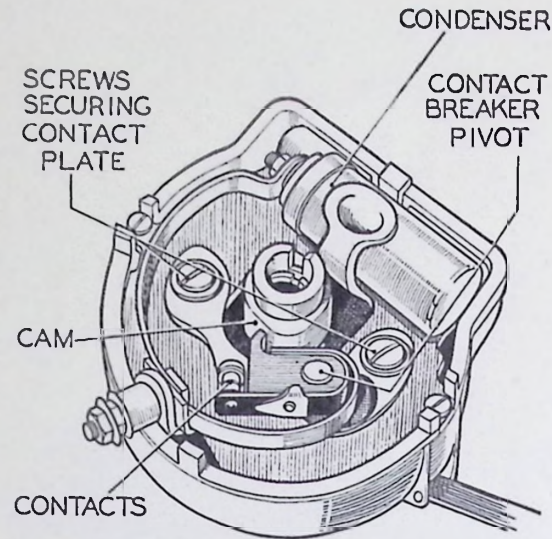

Fig. 1. Contact Breaker Adjustment.
- (1) Remove the moulded distributor cap and turn the engine over by hand until the contacts in the distributor head are fully separated.
- (2) Check the gap with the gauge on the screwdriver supplied with the tool kit. If the gauge, which is .012" (.3 mm.) thick, is a sliding fit between the contacts, the setting is correct. If the gauge is not a sliding fit set the gap as follows:—Keep the engine in the position for maximum gap opening of the contacts. Slacken the two screws which secure the plate carrying the fixed contact, see Fig. 1. Then move the plate until the gap is set to a dimension where the gauge will just slide through. Tighten the screws and re-check.
Place a small amount of Mobilgrease No. 2 or clean engine oil on the pivot on which the contact breaker lever works, see Fig. 1. Do not allow oil or grease to get on or near the contacts.